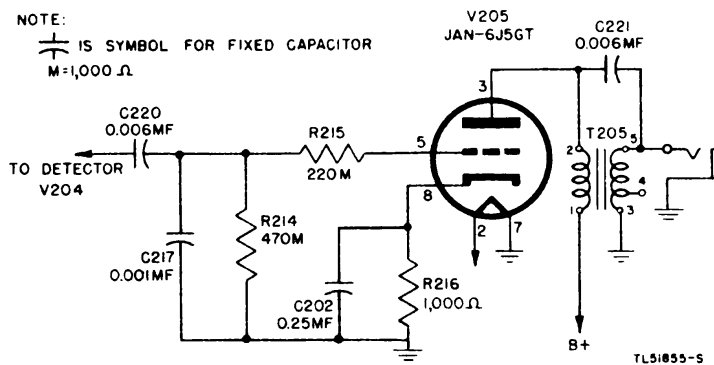

Figure 28. Audio amplifier V205, simplified diagram.
63. AUDIO AMPLIFIER (fig. 28).
a. The audio-output stage uses a Tube JAN-6J5GT (V205) as a triode output amplifier which may be transformed into a keyed audio oscillator during transmission, to monitor the keying (par. 64). The circuit is shown in figure 28 as an audio amplifier.